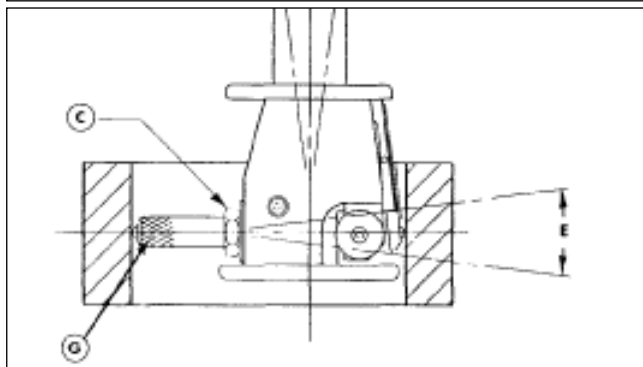

FIGURE 1
2. Screw correct range Gage Point (G) into gaging head (*see Figure 1*).